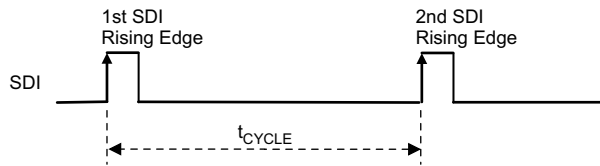
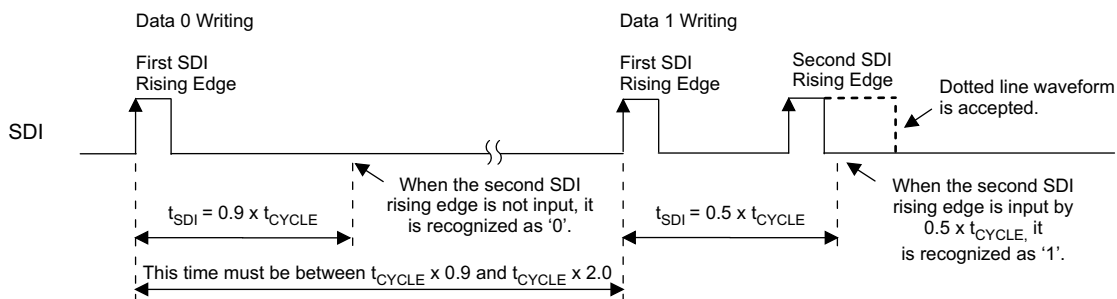

Figure 14. Data Transfer Rate ( $t_{CYCLE}$ ) Measurement
Figure 15. Data '0' and '1' Write Operation
The TLC5973 measures the time between the first and second SDI rising edges either after the device is powered up or when the GS data latch sequence is executed (as described in the GS Data Latch Sequence \(GSLAT\) section) and the time is internally stored as  $t_{CYCLE}$ .  $t_{CYCLE}$  serves as a base time used to recognize one complete data write operation, a 48-bit data write operation, and a GS data write operation to the GS data latch.  $t_{CYCLE}$  can be set between  $0.33 \mu\text{s}$  and  $10 \mu\text{s}$  ( $f_{CLK(SDI)} = 100 \text{ kHz}$  to  $3000 \text{ kHz}$ ). In this sequence, two instances of data '0' are written to the LSB side of the 48-bit shift register. Figure 14 shows the  $t_{CYCLE}$  measurement timing.
When the second SDI rising edge is not input before  $0.9 \times t_{CYCLE}$  elapses from the first SDI rising edge input, the data are recognized as '0'. When the second SDI rising edge is input before 50% of  $t_{CYCLE}$  elapses from the first SDI rising edge input, the data are recognized as '1'. This write sequence must be repeated 46 times after the  $t_{CYCLE}$  measurement sequence in order to send the write command to the higher 10-bit (3AAh) and 36-bit GS data. Figure 15 shows the data '0' and '1' write timing.
2. Write the 48-bit data packet (MSB-first) for the first device using  $t_{CYCLE}$  and the data write sequences illustrated in Figure 14 and Figure 15. The first 12 bits of the 48-bit data packet are used as the write command. The write command must be 3AAh (001110101010b); otherwise, the 36-bit GS data in the 48-bit shift register are not copied to the 36-bit GS data latch.